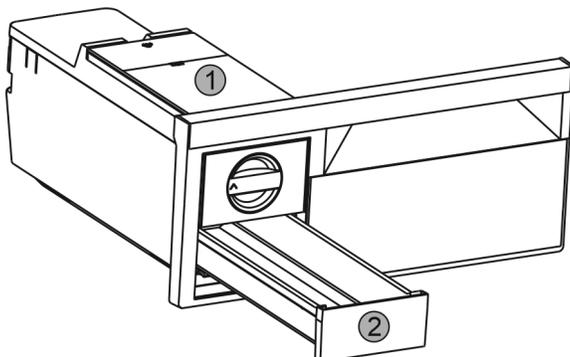

Fig. 45
- ▶ Take out the water tank *Fig. 45 (1)* and ice cube drawer *Fig. 45 (2)*.